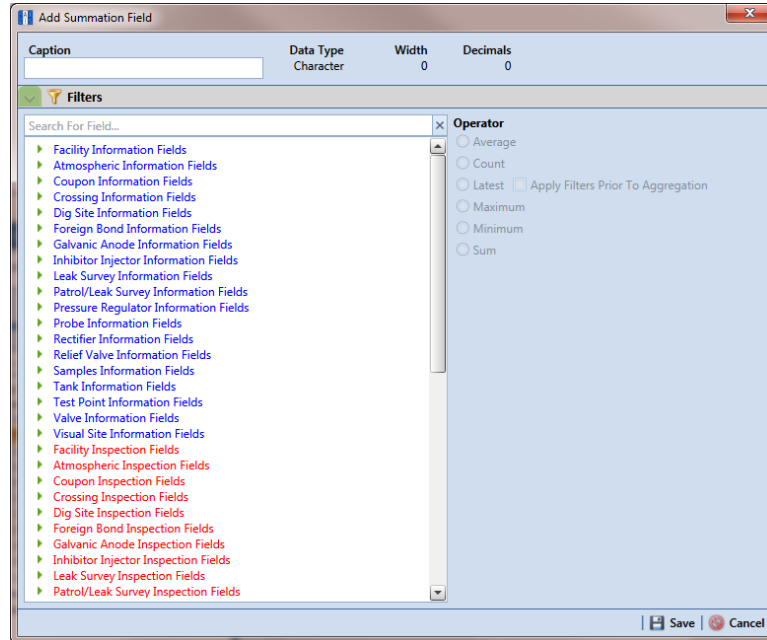

Figure 3-62. Add Summation Field
- 4 Click **Summation** in the toolbar to open the *Add Summation Field* dialog box (Figure 3-62, page 114).